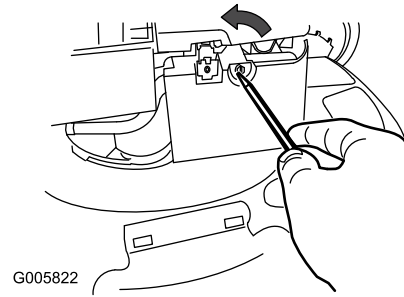

Figure 39
1. Use a screw driver to open the air-filter cover (Figure 39).